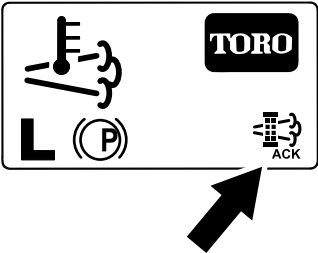

Figure 67
8. The InfoCenter displays the home screen and the regeneration acknowledge icon (Figure 67) appears in the lower right corner of the screen as the regeneration processes.